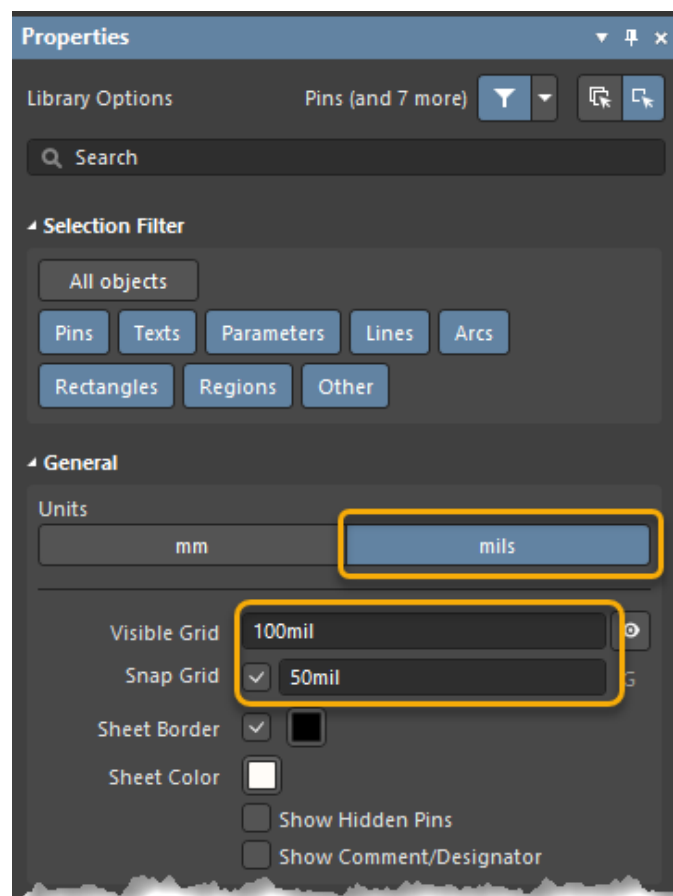

Figure 13. Grid Properties
16. Go to **Tools » Document Options....** to open the *Properties* panel. Change the *Snap Grid* to 50mil as shown in Figure 13.